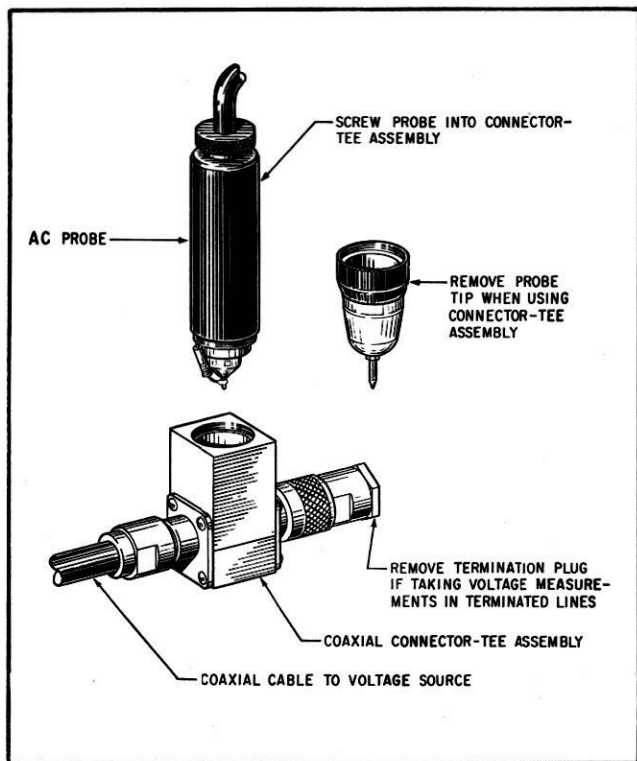

Figure 3-2. Installation of AC Probe in Connector Tee Assembly
(1) GENERAL. The AC probe and the COM test probe are used for ac measurements in the low frequency ranges. At higher frequencies (above 50 kc) the short ground lead on the AC probe is substituted for the COM probe. If a high degree of accuracy is required when making ac voltage measurements above 100 mc, the AC probe is inserted into a coaxial tee connector as shown in figure 3-2. Accurate ac voltage measurements can then be taken at frequencies up to 700 mc. It should be remembered, however, that the maximum voltage that can be measured at radio frequencies decreases linearly from 300 volts at 50 mc to only 20 volts at 700 mc.
(2) If voltages are to be measured above 100 mc in 50 ohm coaxial lines, insert the AC probe into the coaxial tee connector as described in steps (a) and (b). When making measurements in un-terminated lines, install the coaxial terminator plug E2. The maximum power dissipation of the load resistor in E2 is one watt.